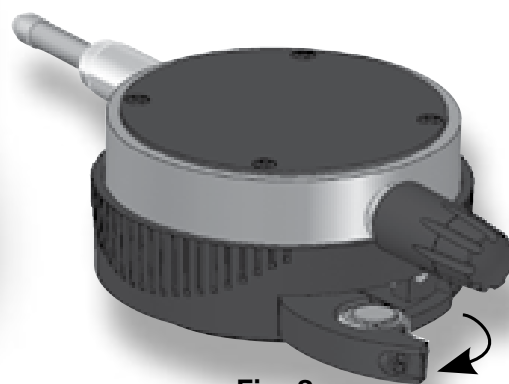

Fig. 3
- Hold the battery tray in and loosen the screw. Place the indicator face down, and then swing the battery door open as shown in Fig.3, being careful not to lose the battery.